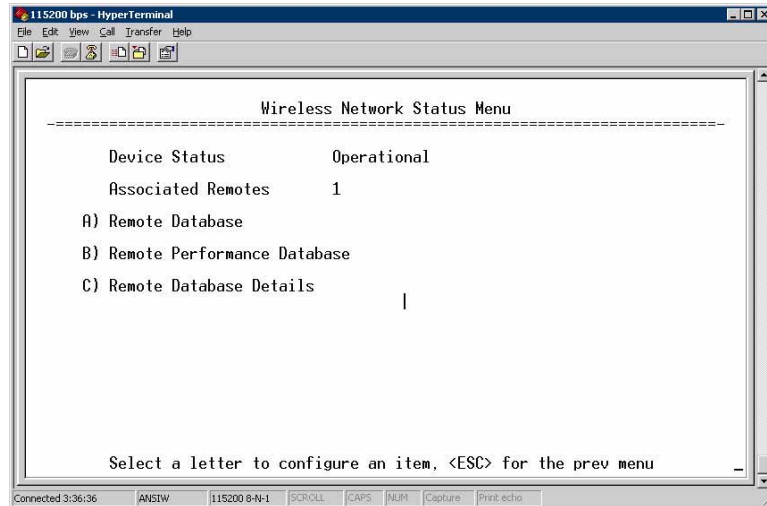

Figure 3-79. Wireless Network Status Menu (AP)
- ¥ **Wireless Network Status** □ Current AP association state and MAC address. (See Figure 3-79 on Page 109 for details.)